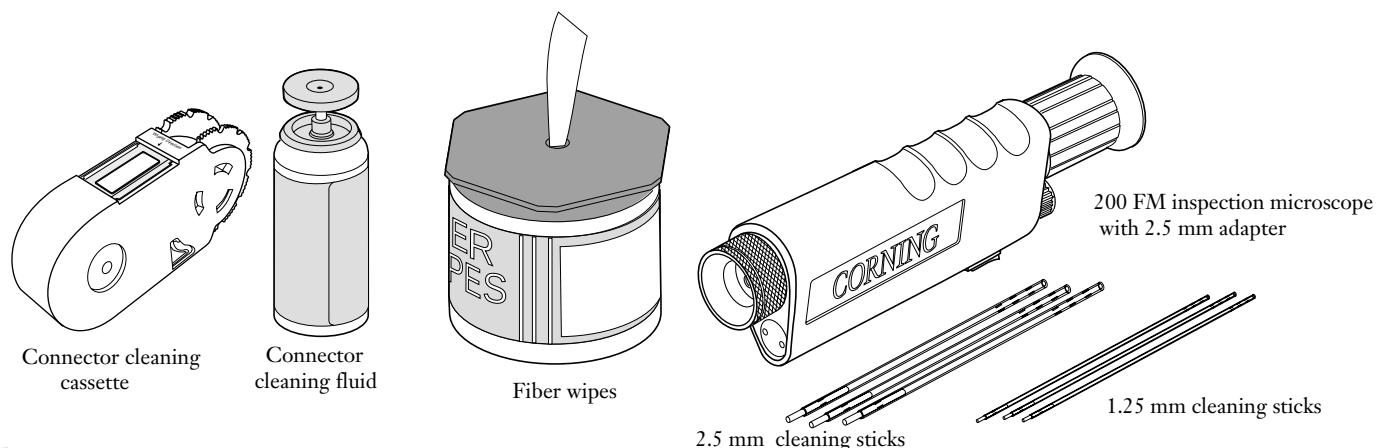

Figure 1
1.1 This procedure describes how to use a Corning Cable Systems Single-fiber Connector Cleaning Kit (p/n TKT-CLEAN-SFC-M) to clean and inspect fiber optic connector end-faces and connector ports. This procedure includes instructions for any rare “worst case” connectors which the kit’s cleaning cassette can not effectively clean. (Figure 1).